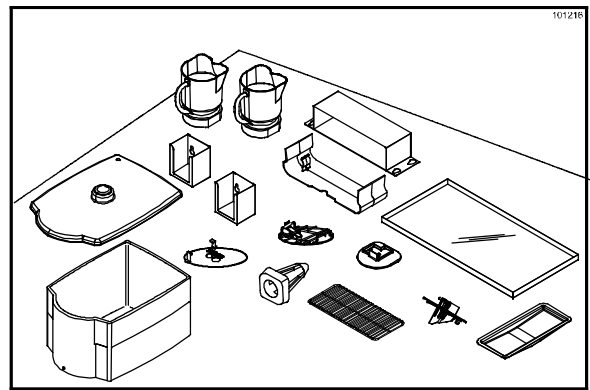

Figure 51
19. Place the following parts on a clean, dry surface to air dry overnight: ice hopper, ice hopper cover, blender pitchers, splash guard, ice chute, rinse station assembly (grate, actuator, and strainer), pitcher drying station (grate and drip pan), skirt, syrup rail, lid holders, whipped cream holder, and mix cabinet drip pan. (See Figure 51.)